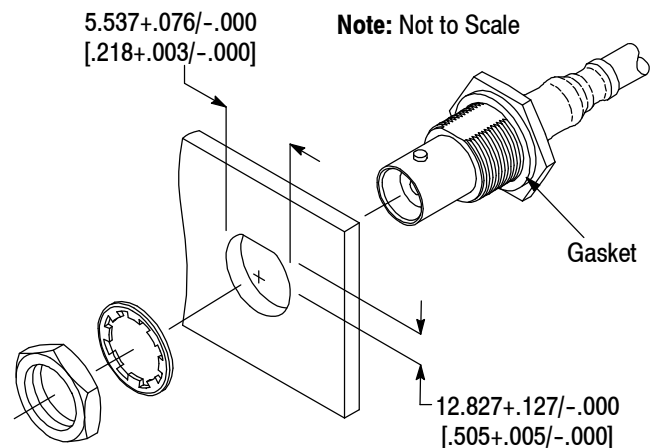

Figure 7
9. Cut a panel having a maximum thickness of 6.096 [.240] using the dimensions provided in Figure 7. Then insert the connector into the cutout, and secure the connector to the panel using the lockwasher and jam nut. See Figure 7.